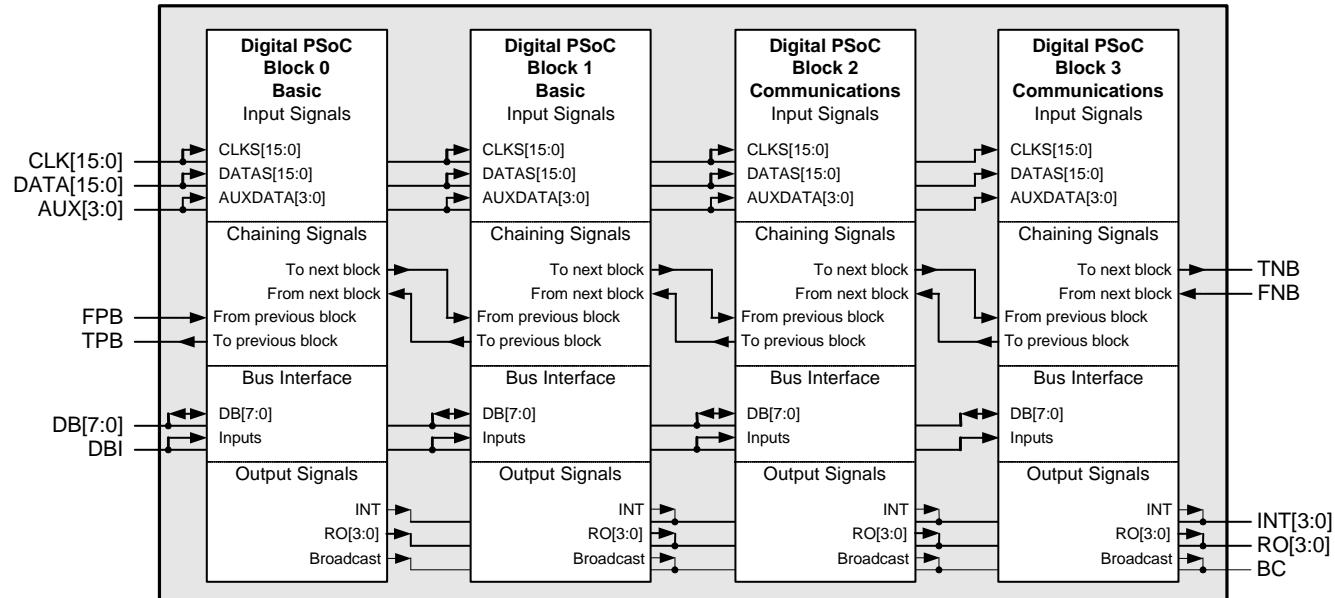
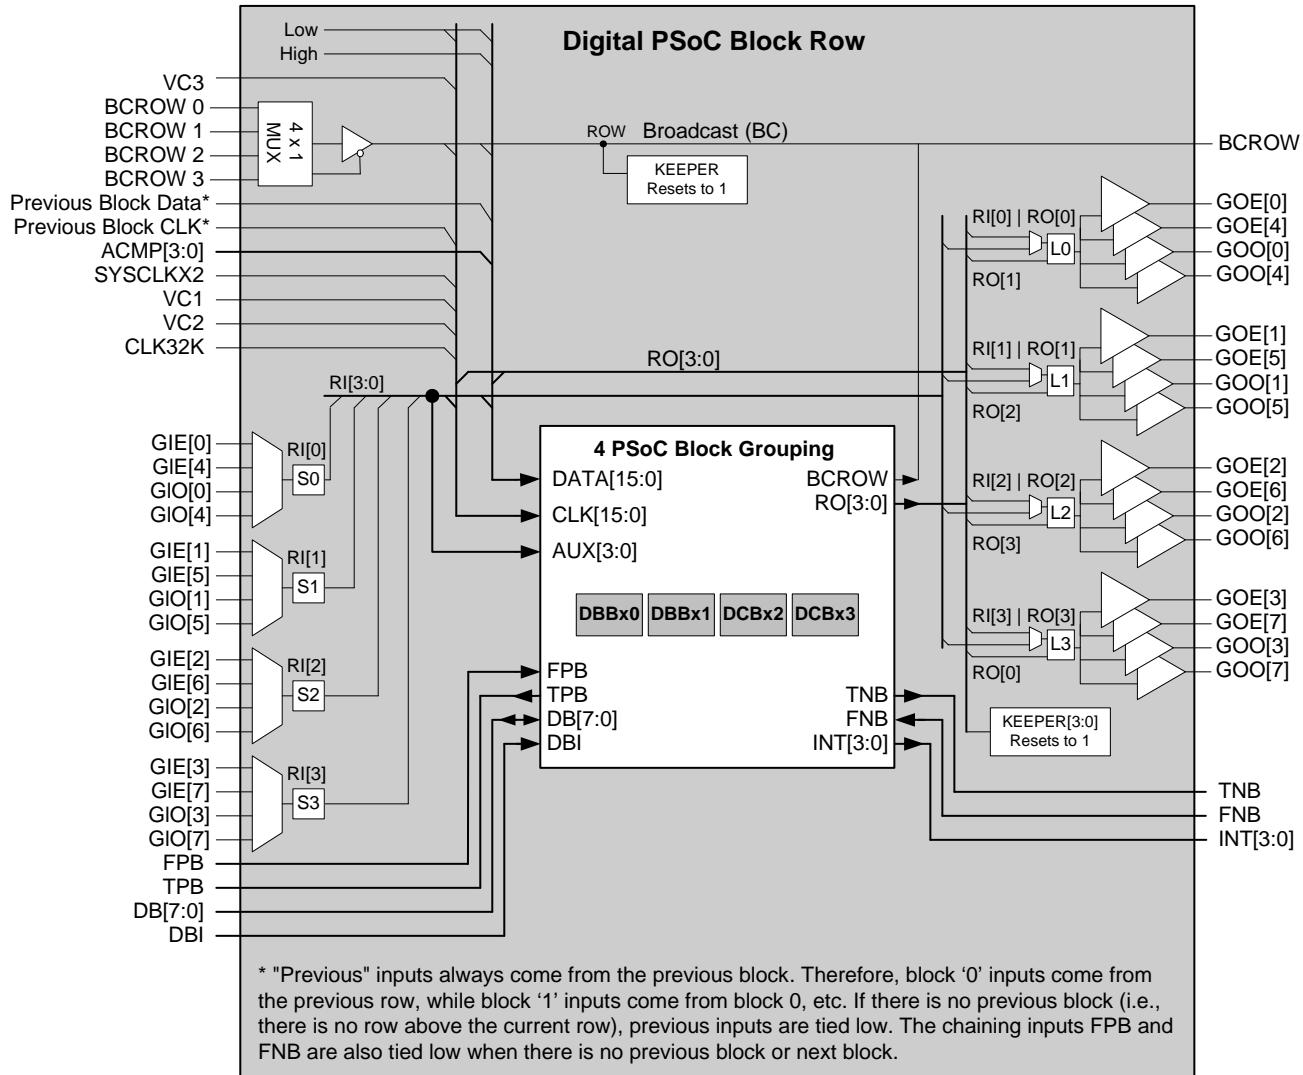

Figure 16-1. Detailed View of Four PSoC Block Grouping
Figure 16-2. Digital PSoC Block Row Structure
In Figure 16-1, within a digital PSoC block row, there are four digital PSoC Blocks. The first two blocks are of the type basic (DBB). The second two are of the type communication
(DCB). This figure shows the connections between digital blocks within a row. Only the signals that pass outside the gray background box in Figure 16-1 are shown at the next level of hierarchy in Figure 16-2 on page 328.
In Figure 16-2, the detailed view shown in Figure 16-1 of the four PSoC block grouping, has been replaced by the box in the center of the figure labeled “4 PSoC Block Grouping.” The rest of the configurable nature of the Row Inputs (RI), Row Outputs (RO), and Broadcast clock net (BC) is shown for the next level of hierarchy.
As shown in Figure 16-2, there is a **keeper** connected to the row **broadcast net** and each of the row outputs. The keeper sets the value of these nets to '1' on system reset and holds the value of the net should it become un-driven.
Notice on the left side of Figure 16-2 that global inputs (GIE[n] and GIO[n]) are inputs to 4-to-1 multiplexers. The
The only configurable inputs to a digital PSoC block row are the Global Input Even and Global Input Odd 8-bit buses. The only configurable outputs from the digital PSoC block row are the Global Output Even and Global Output Odd 8-bit buses. Figure 16-2 on page 328 illustrates the relationships between global signals and row signals.
* Refer to Figure 16-2 on page 328.
The outputs from a digital PSoC row are a bit more complicated than the inputs. Figure 16-2 on page 328 illustrates the output circuitry in a digital PSoC row. In the figure, find a block labeled Lx. This block represents a 2-input look-up table (LUT). The LUT allows the user to specify any one of 16 logic functions that should be applied to the two inputs.